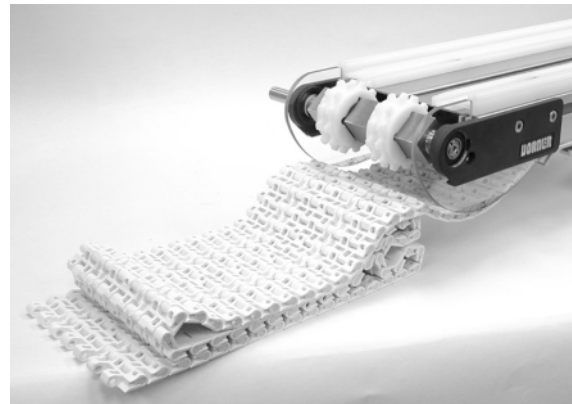

Figure 19
- Pull back topside of belt to the drive end of the conveyor. See figure 19.